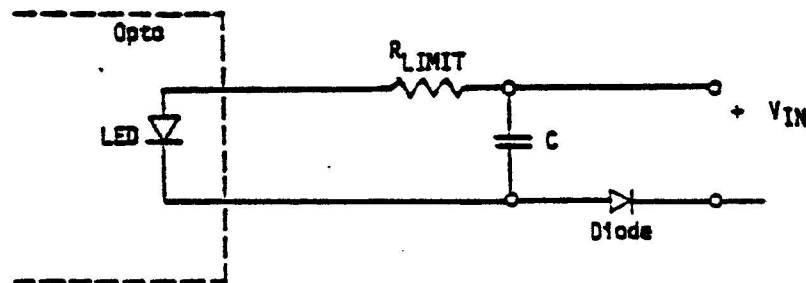

Figure 3-6. Pulse Stretching Capacitor
When the input voltage to the network (V_{IN}) is a pulse less than 20 microseconds, the switching time of the opto-isolator may be too slow to react to it. To add flexibility to the inputs so that short pulses can be detected, pads are provided to form a pulse stretching capacitor (C) as shown in Figure 3-6.